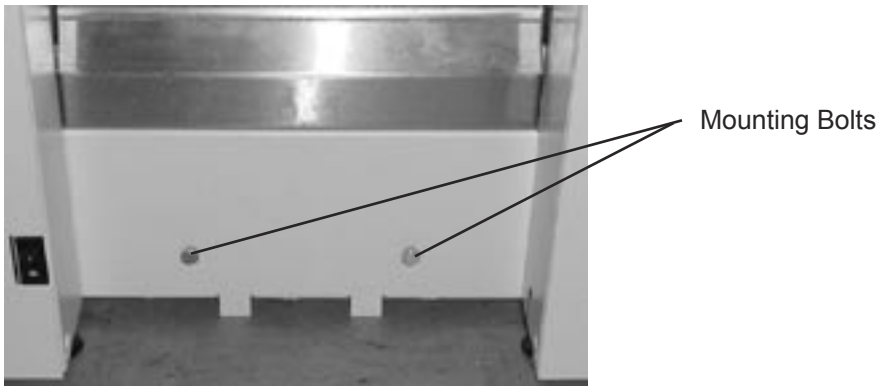

Figure 7
5. Install the conveyor mounting bolts (figure 7).